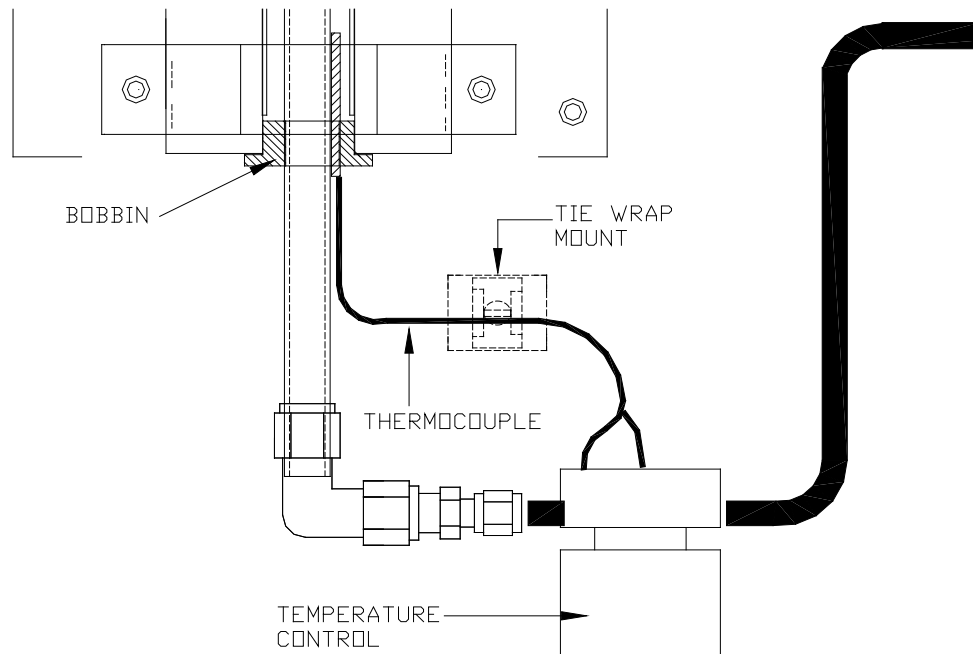

Figure 2-5. Tie-Wrap Hold-Down Location
15. Clean the chassis where the Tie-Wrap Hold-Down will be placed (alcohol is recommended), and place the Tie-Wrap Hold-Down as shown in the Figure 2-5.